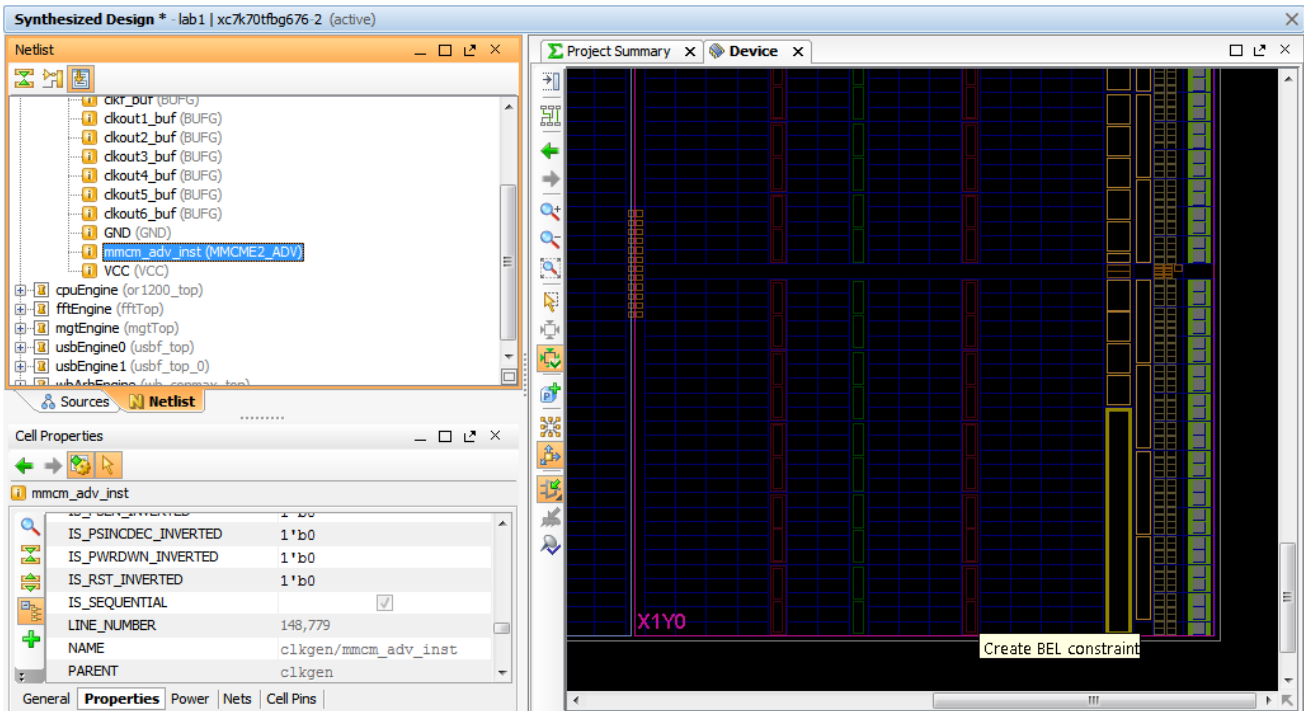

Figure 31: Placing the MMCM
- Zoom into the bottom right of the Device view, to display the lower half of **Clock Region X1Y0**, to prepare for placing the selected object. See Figure 31.